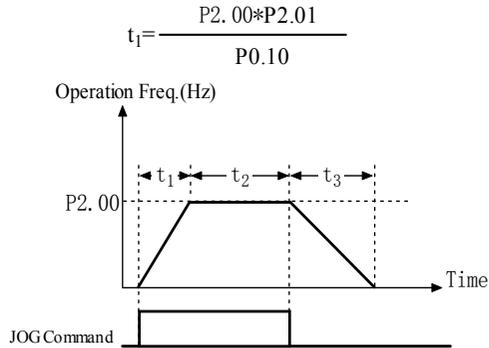

Fig. 5-2-1 Description of Jog parameters
- ◆ As shown in Figure. 5-2-1, t1 is Acc time of Jog and t3 is Dec time of Jog, t2 is the Jog time; P2.00 is the Jog frequency.